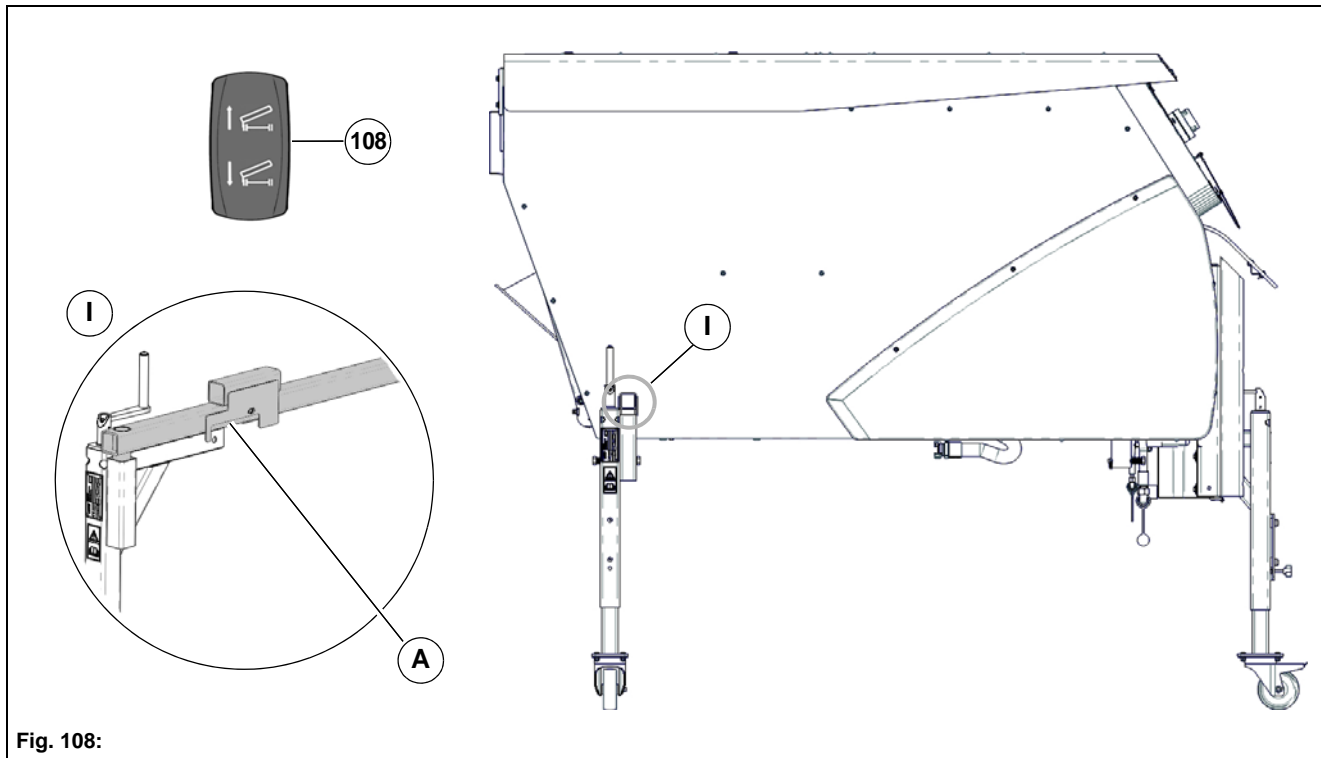

Fig. 108:
- Geka coupling for circulating water = **Fig. 108-A**
10. Raise the dirt hopper with the tip switch **Fig. 108-108**. Work in groups of two to remove the cross-beam **Fig. 108-A** of the front supports.